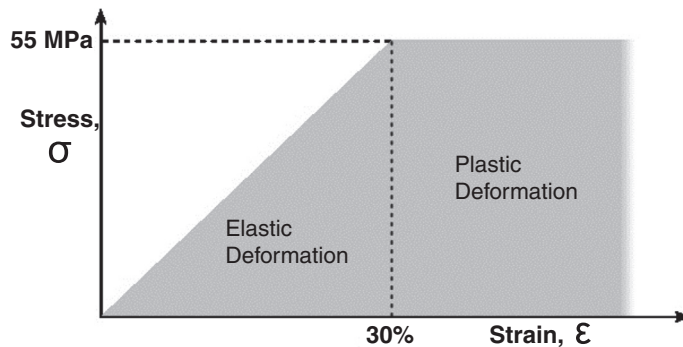

FIGURE 13.13
The previous section showed how the stress-strain diagram provides the information needed to determine if a material satisfies the design requirements. The question now becomes: Is there a material of less weight than steel that also satisfies the design requirements? To be specific, let us consider a polymer, a material that is much less dense than steel. Can it compete with steel in the bumper application? Again, our tool is the stress-strain diagram. Fig. 13.13 and Table 13.1 are for a polycarbonate.
If the car's bumper in Example 13.1 is made of the polycarbonate described by Fig. 13.13, can it absorb the TKE of the low-speed 2.50 mph (1.12 m/s) collision, or will it plastically deform? What if it is traveling at 5.00 mph (2.24 m/s)? What is the weight of this bumper if its density of polycarbonate is 1300 kg/m³? Assume the compressive stress-strain diagram mirrors the tensile stress-strain diagram in Fig. 13.13.
Solve: Calculate the elastic toughness by looking at Fig. 13.13. It is given at yield by the triangular area, $\frac{1}{2} \times 0.30 \text{ [m/m]} \times 55 \text{ [MN/m}^2\text{]} = 8.3 \text{ MJ/m}^3$.
17. Using the stress-strain properties for a polymer (Fig. 13.13 and Table 13.1), determine whether a sheet of this polymer 0.10 m thick could serve as a micrometeorite shield if this time the shield must survive a micrometeorite strike without being permanently dented or damaged. Assume the properties of the polymer are symmetric in tension and in compression. (**Ans. Yes**, it will survive unscathed.)